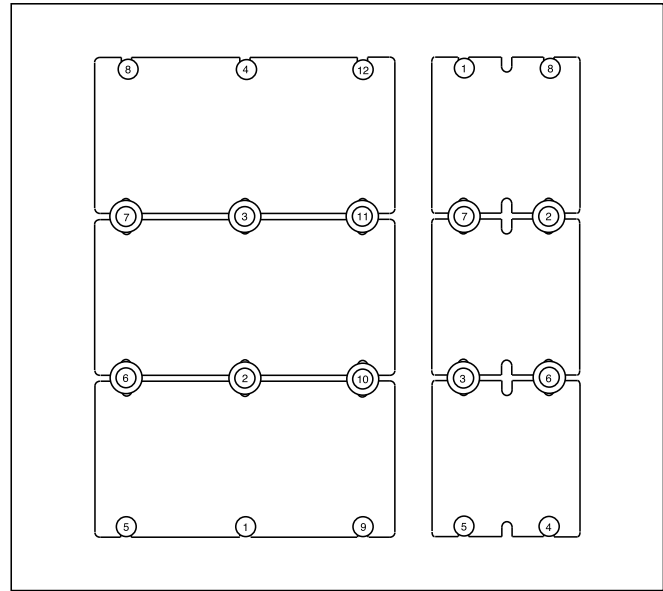

**Figure 20-6** — Torquing sequence, multiple VI-200 / VI-J00 converters
**Multiple Modules Using Common Fasteners.** The following mounting scheme should be used to attach modules to a heat sink for two or more modules. A large, heavy washer should be used on the common fasteners to distribute the mounting force equally between modules. The torquing sequence shown in Figure 20-6 can easily be expanded from two to any number of modules. An array of three is shown.